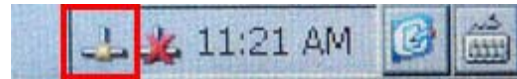

Figure 4-27: Network Connected
Step 9: When the network is successfully connected, the icon in the notification area (as shown in **Figure 4-27**) appears.